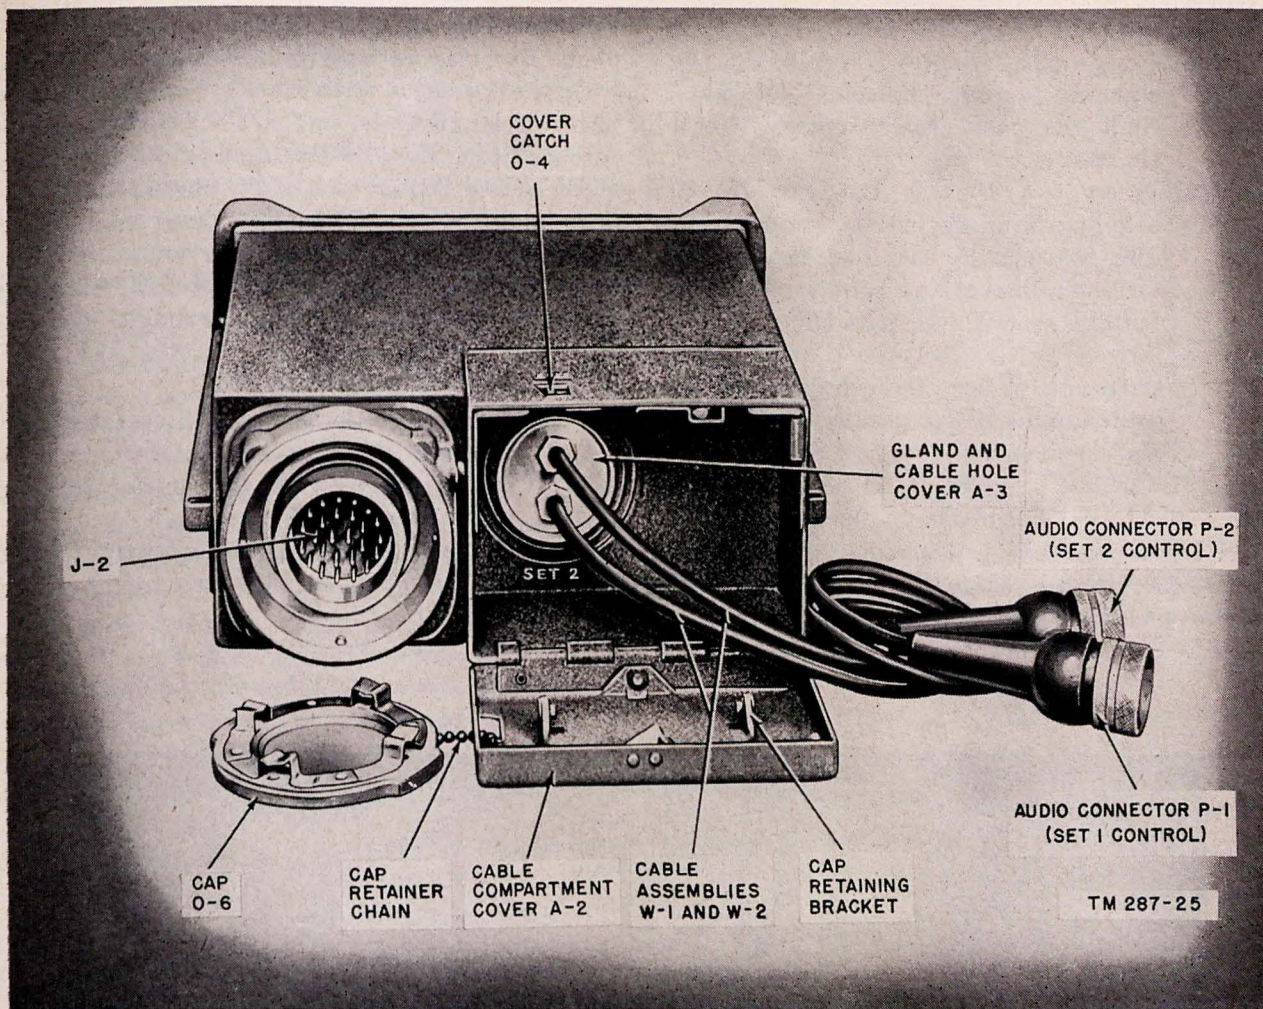

Figure 27. Local Control C-434/GRC, rear view.
- (3) Open the hinged door at the rear of the local control unit and remove the two cables within the compartment (fig. 27).
- (4) For push-to-talk control of the receiver-transmitter, connect the Set 2 cable at the rear of the local unit to the AUDIO receptacle on the receiver-transmitter (fig. 27). To allow interphone operation also, connect the Set 1 cable to the AUDIO receptacle on the interphone amplifier.
- (5) Connect a chest set (with headset and microphone) to the AUDIO receptacle in the local unit. Lock the RADIO-INT switch in the RADIO position and disable the lock-on push-to-talk switch (par. 33).